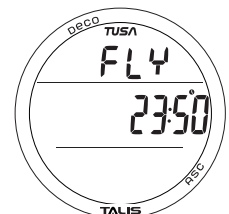

Fig. 47 - TIME TO FLY
**Time to Fly**, information includes (Fig. 47):